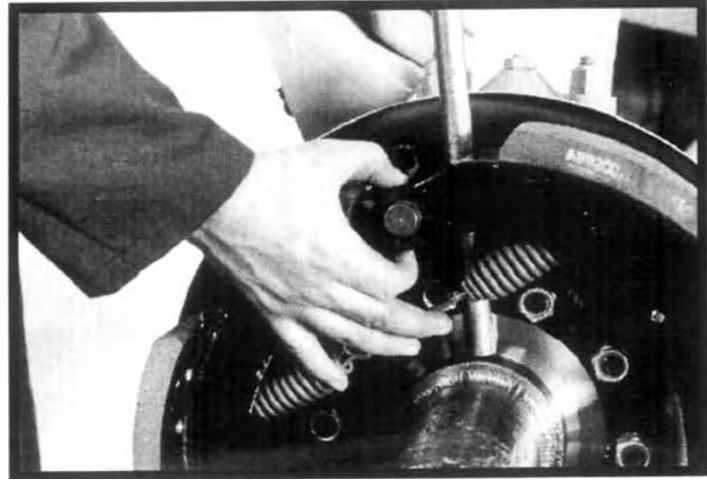

Figure 10
2. Insert a suitable pry bar down between the top of the brake shoe and a spindle locknut. Pry the shoe away from the S-cam and remove the roller. **DO NOT ALLOW YOUR FINGERS TO COME DIRECTLY BETWEEN THE SHOE AND THE S-CAM!** Relax the spring tension, then remove the opposite roller in like fashion. See Figure 10.
6. Hook the two lower retaining springs into each brake shoe. By grasping the shoes at the top and spreading them apart, the circular recess in the bottom of each shoe can be fit over the anchoring pin on the brake spider. Install the large upper brake release spring over its two pins on the shoes, hooks facing down. Using a bar, pry the shoes away from the cam and insert the camshaft rollers. **DO NOT ALLOW YOUR FINGERS TO COME BETWEEN THE SHOE AND THE S-CAM!** See Figure 10.